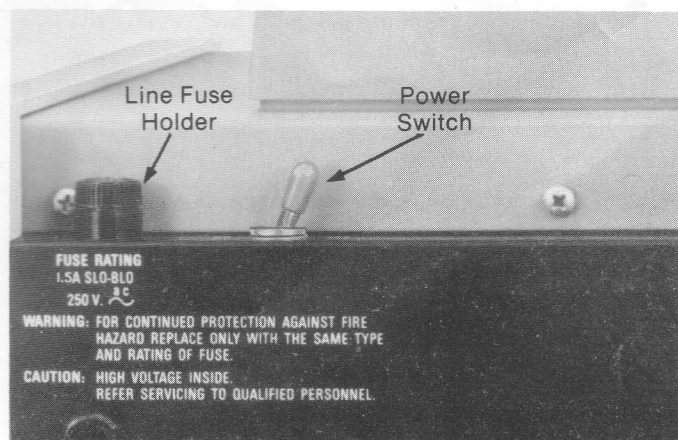

Figure 7. Instrument Rear Panel, Showing Location of Line Fuse Holder and Power Switch
- Set the power switch (shown in Figure 7) to OFF.
The line power fuse (shown in Figure 7) is located on the instrument rear panel.